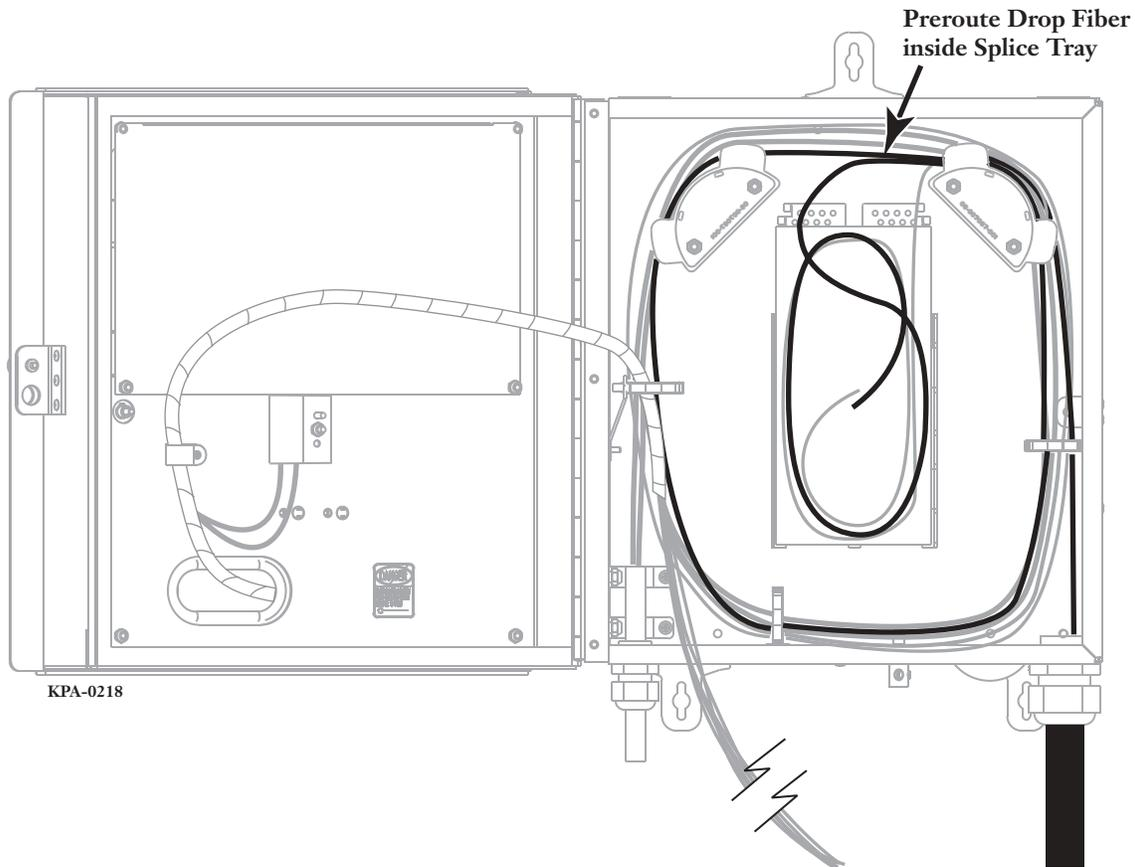

Figure 3 — Feed Drop Cable into Watertight Fitting
- Step 2** Bring approximately 295 centimeters (116 inches) of cable through the conduit into the cabinet (Figure 3).
- Step 3** Preroute each cable through the routing clips in a counterclockwise direction to the splice tray and mark on the jacket where it will enter the splice tray (Figure 3). Continue prerouting two loops of cable inside the splice tray storage area to determine the length of fiber that will be required for splicing inside the tray. Cut the cable at the point where it will be spliced inside the tray. Note that the fiber crosses over to the right upon entering the tray and routes inside the tray in a clockwise direction.